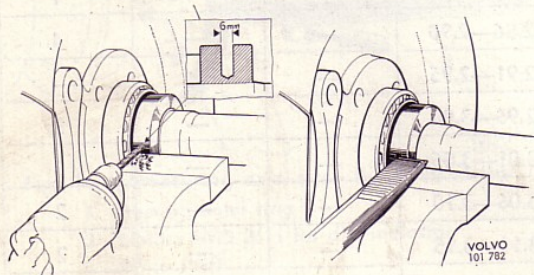

Fig. 19. Removing lock ring
6. Drill a 6 mm (1/4") hole in the lock ring as shown in Fig. 19. Do not drill so deep as to damage the shaft. Split the ring with a cold chisel. NOTE. Apply the chisel to the outer edge of the ring in order not to damage the bearing. Remove the shaft from the vice and take off the lock ring.